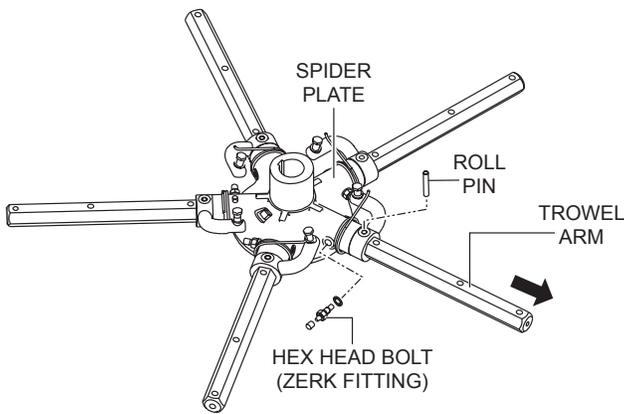

Figure 36. Zerk Fitting and Roll Pin Removal
2. Remove and set aside the hex head bolt (Zerk fitting) and roll pin securing the trowel arm to the spider plate. See Figure 36.
3. Remove the trowel arm from the spider plate and set aside (Figure 36).